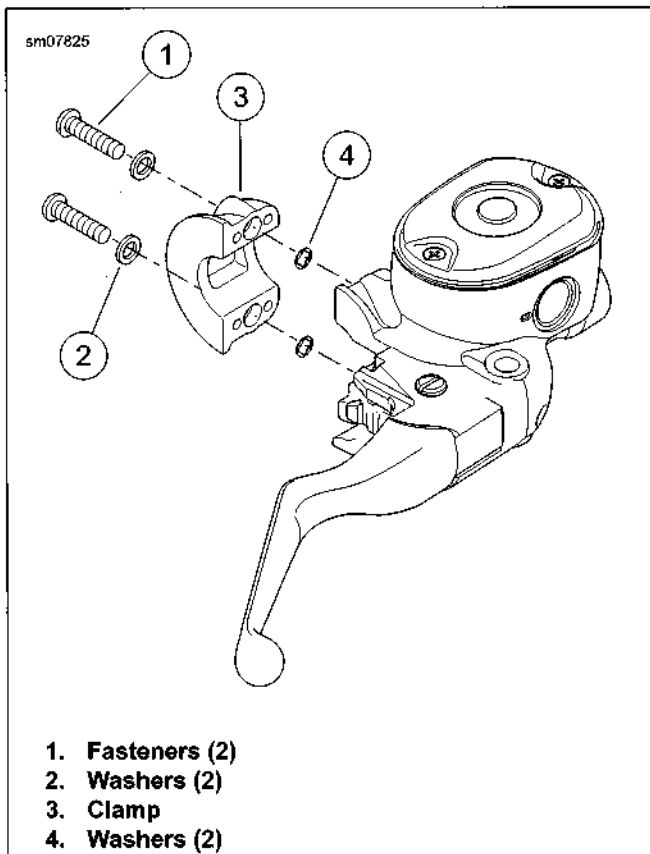

Figure 2-48. Master Cylinder Handlebar Clamp
4. Remove banjo bolt (6) and two sealing washers (7). Discard sealing washers.
5. See Figure 2-48. Remove the screws (1), washers (2) securing the handlebar clamp (3) to the master cylinder housing.
6. Capture the locking washers (4).